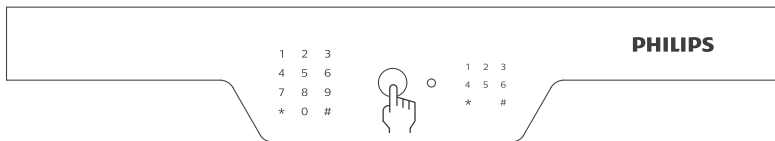

Figure 2
1. Open safe door and press "👆" on the battery compartment. After hearing a voice prompt "Please enter fingerprint or PIN code", enter your fingerprint as shown in Figure 2. A voice prompt "Fingerprint entering succeeded." indicates successful operation. If the entering fails, there will be a voice prompt "Fingerprint entering failed". The system will automatically exit if there is no entering in 8 seconds.